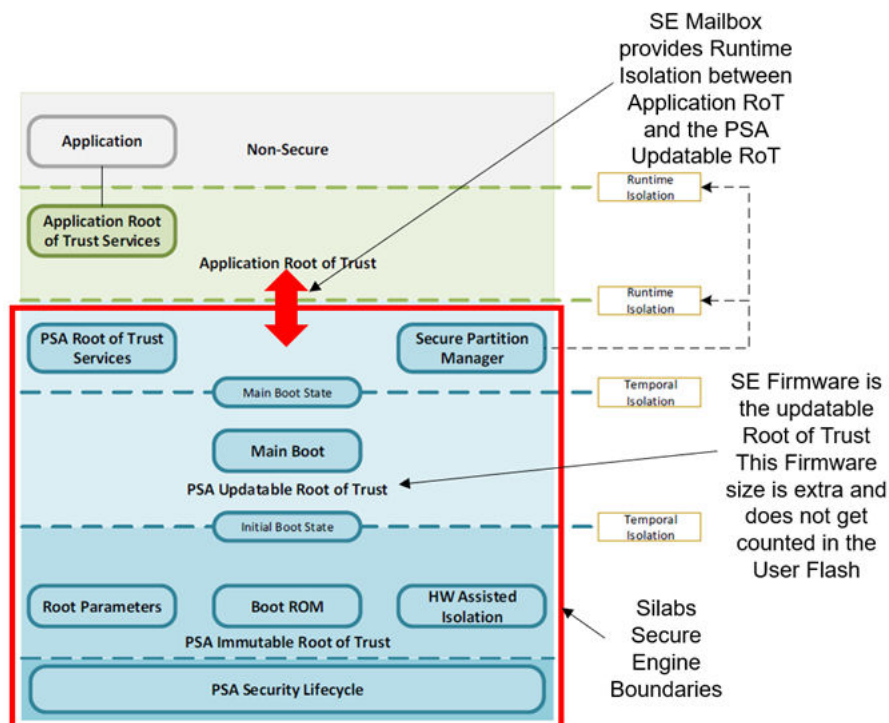

Figure 7.1. Silabs Secure Vault™ High PSA Level 3 Implementation
With this separate security sub-system, shown outlined in red in Figure 7.1, the PSA Immutable Root of Trust (RoT) functionality is provided by the Root of Trust Secure Loader (RTSL) ROM code (See Secure Boot with RTSL section of this User Guide for details). The PSA Updatable RoT functionality is provided by the Secure Engine (SE) firmware. The isolation barrier required between the PSA Updatable RoT and the Application RoT is provided by the HSE Application Interface (API) to the Host M33 core in the MCU.